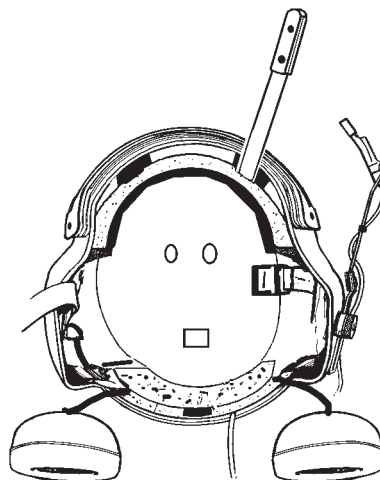

Figure 4-9. Removing Energy-Absorbing Liner
4. Referring to Figure 4-9, use a spatula to separate the hook-and-pile fastener attaching the energy-absorbing liner to the helmet shell.